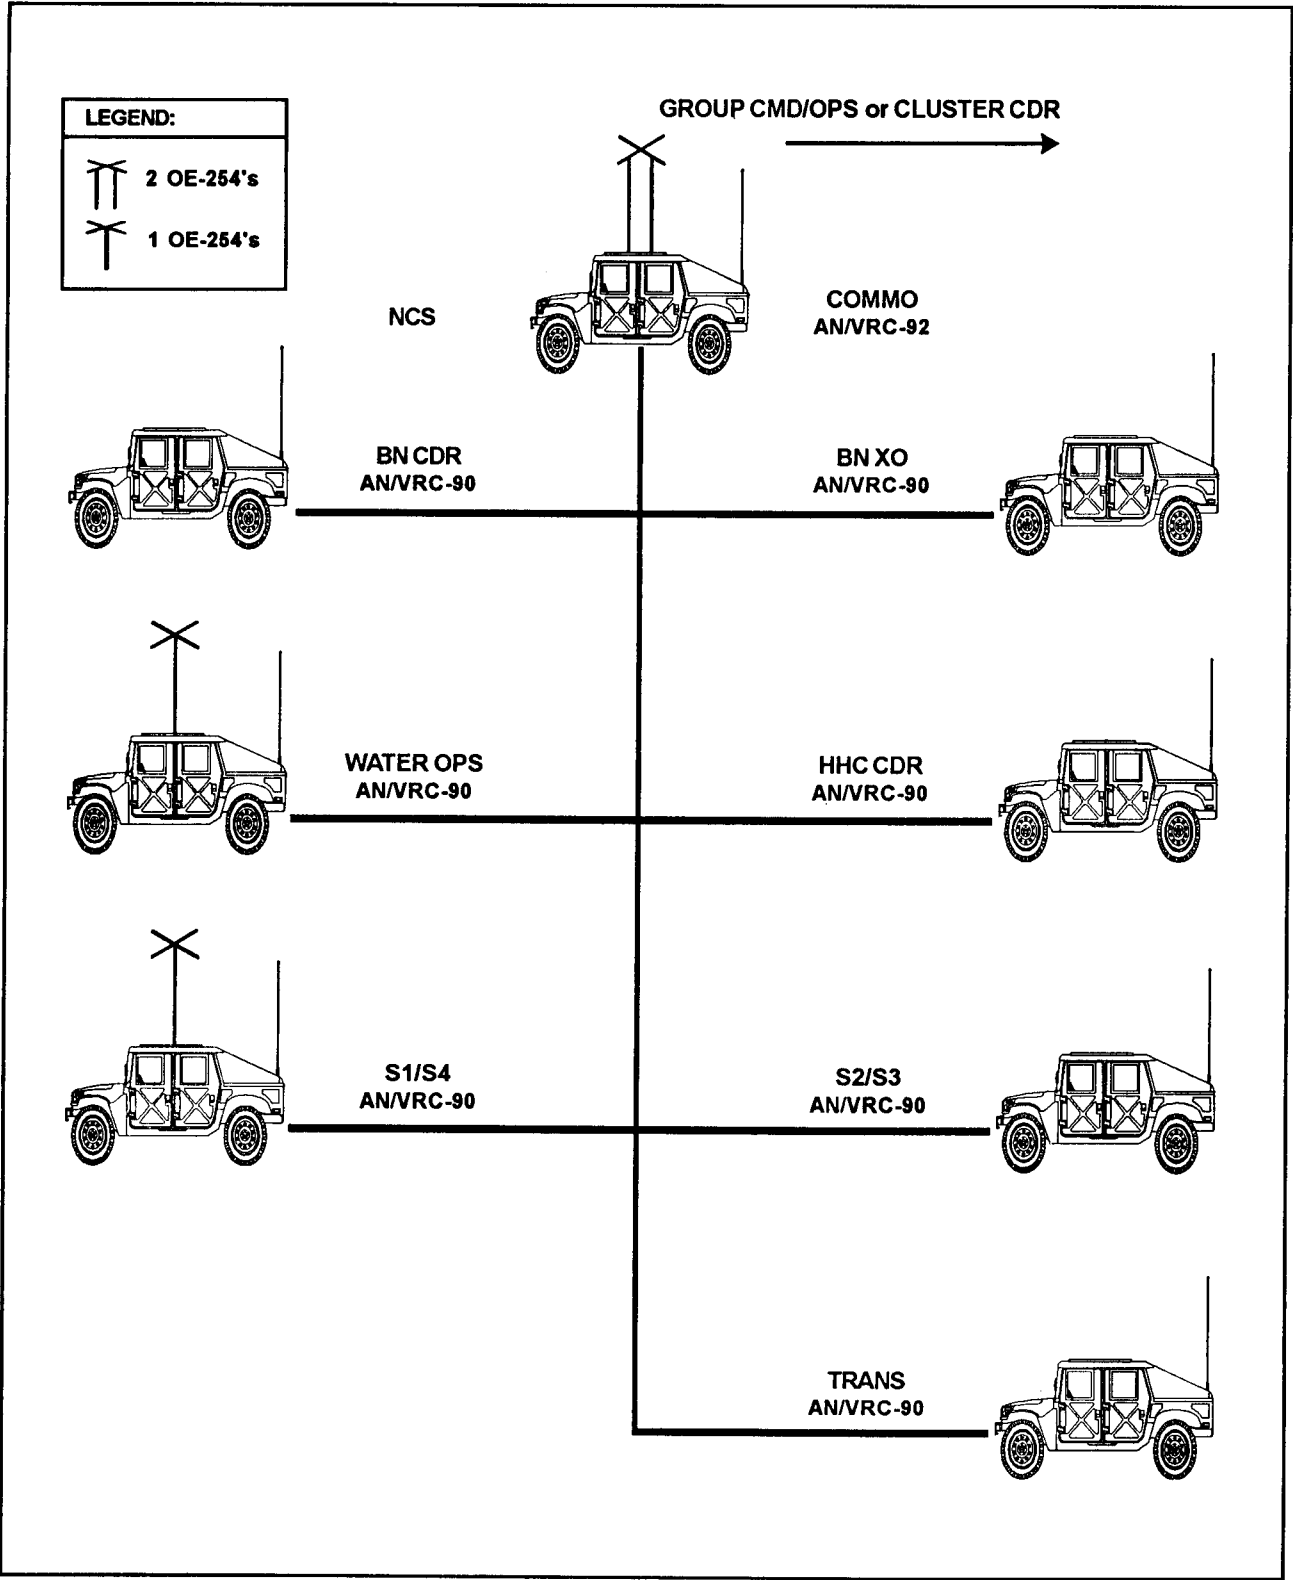

Figure 6-3. Water supply battalion net (SINCGARS)
- Establishes and operates a radio communications net. Figure 6-3, page 6-8, shows an example radio net plan.